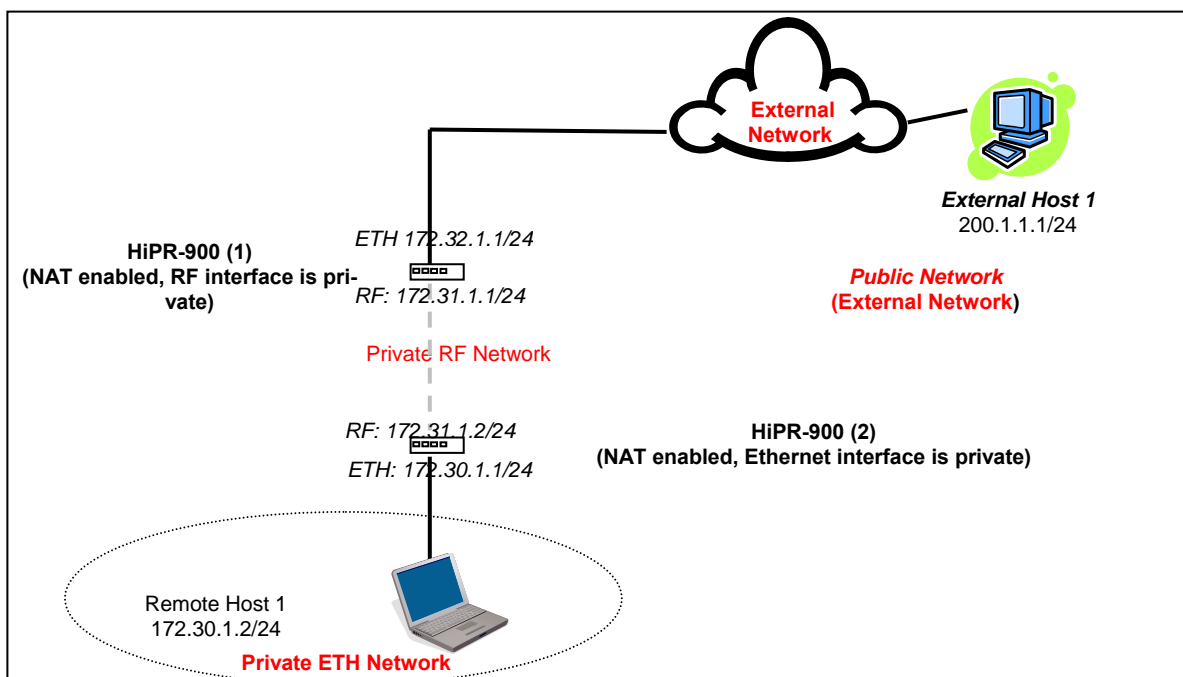
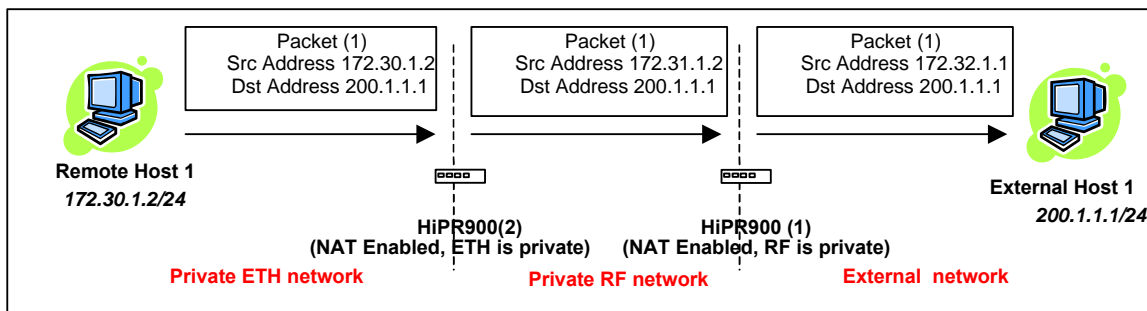

Figure 48 - NAT Enabled on RF interface
Figure 49 - Private to Public
An IP packet whose source IP address originates from the RF network and is sent towards the Ethernet network will have its source IP address replaced by the Ethernet IP address of the HiPR-900 unit. In the example Figure 48, the RF interface of the HiPR-900 (1) unit is considered private. The Ethernet interface of the HiPR-900(2) unit is considered private.
Notice that in the example (Figure 48 and Figure 49) NAT is enabled on HiPR-900 (2) on the Ethernet interface and that on the HiPR-900 (1) unit on the RF interface.